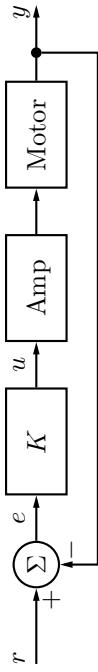
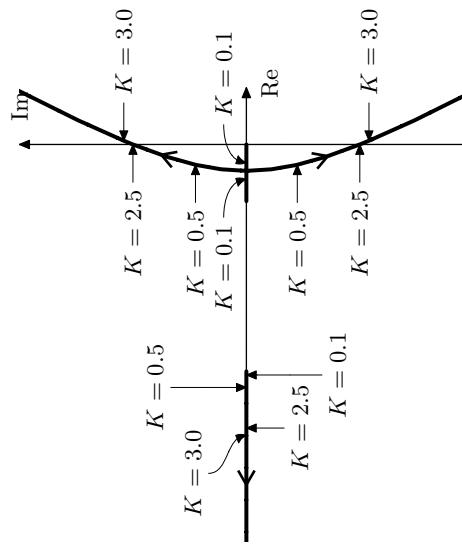

Figure 2.2a
Figure 2.2b
2.2 A servo system for positioning of a tool in a tooling machine is depicted in Figure 2.2a. In Figure 2.2b, the poles of the closed loop system are plotted for different values of the gain K . Find (without calculations), for each of the step responses in Figure 2.2c, the corresponding value of K used when generating the step response.